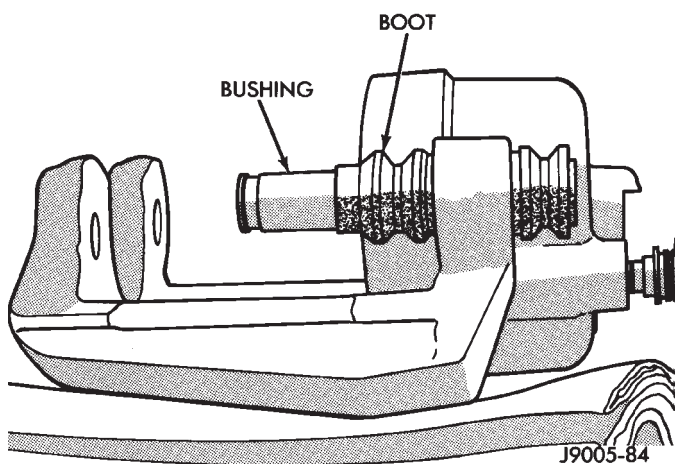

Fig. 17 Installing Slide Bushings And Boots
(1) Coat caliper piston bore, new piston seal and piston with clean, fresh brake fluid.
(2) Lubricate caliper slide bushings and interior of bushing boots with GE 661 or Dow 111 silicone grease.
(3) Install bushing boots in caliper first. Then insert bushing into boot and push bushing into place (Fig. 17).